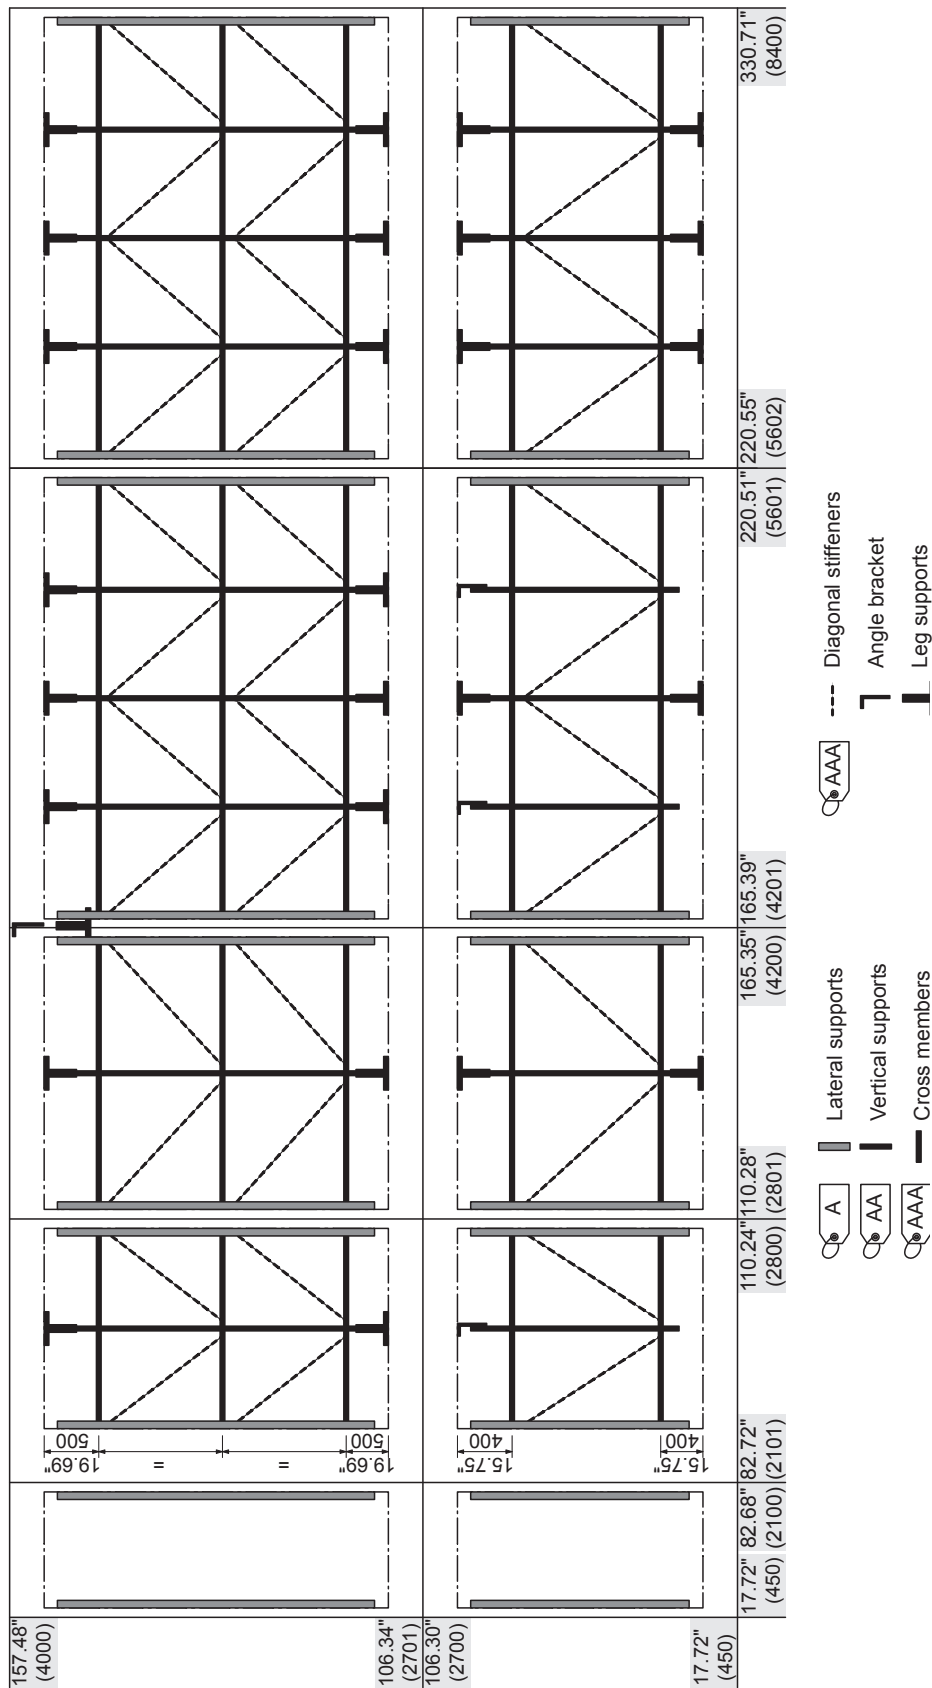

Fig. 6: Overview frame constructions post-evaporation unit - AHU inner dimensions in Inch (mm)
- Mark the horizontal position(s) of the vertical support(s) on the cross members (if there is only one vertical support, position it in the centre; if there are several vertical supports, position them evenly across the width, see Fig. 6).
**Note:** the requirement of mounting leg support(s) depend on width and height of the unit (see Fig. 6).
**8. Mounting the diagonal stiffeners (tagged "AAA") (see also frame construction overviews in Fig. 6):**